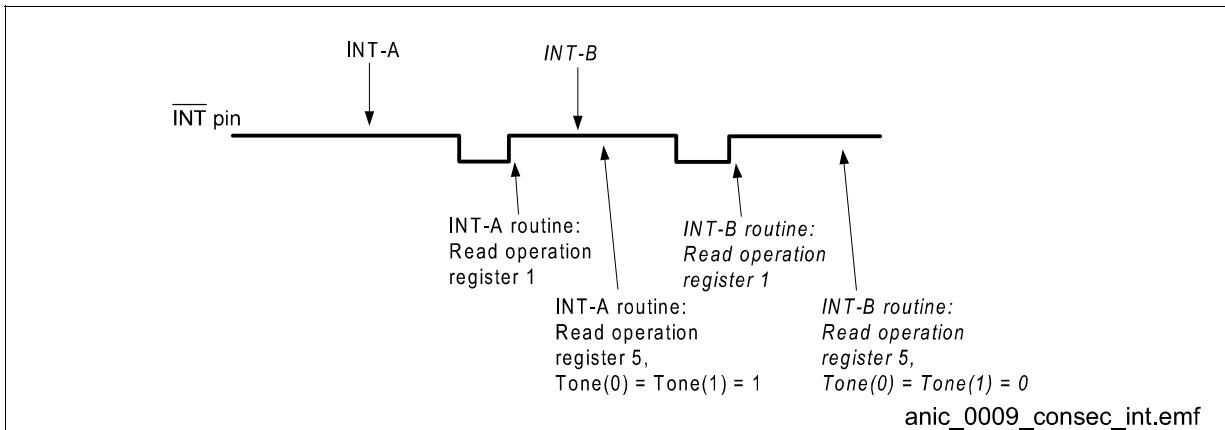

Figure 15 Example for Consecutive Tone Interrupts
When there are two consecutive tone interrupts (e.g. "INT-A" followed by "INT-B", see Figure 15) and INT-B happens before the interrupt service routine of INT-A could read register 5, the source of INT-B will be read together with the source of INT-A in register 5 (Bits TONE(0) = TONE(1) = 1). As reading register 5 clears the bits TONE(0) and TONE(1), the later starting interrupt service routine of INT-B can't find a source for this interrupt in register 5 (Bits TONE(0) = TONE(1) = 0). Therefore, the host must ignore the interrupt service routine of INT-B and use the values of the former routine.